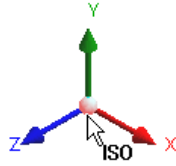

Figure 3-77 The Triad with the ISO ball
2. Click on the ISO ball available on the bottom right corner of the **Graphics** window; the view is changed to isometric. Figure 3-77 shows the ISO ball with the Triad and Figure 3-78 shows the Isometric view of the model.